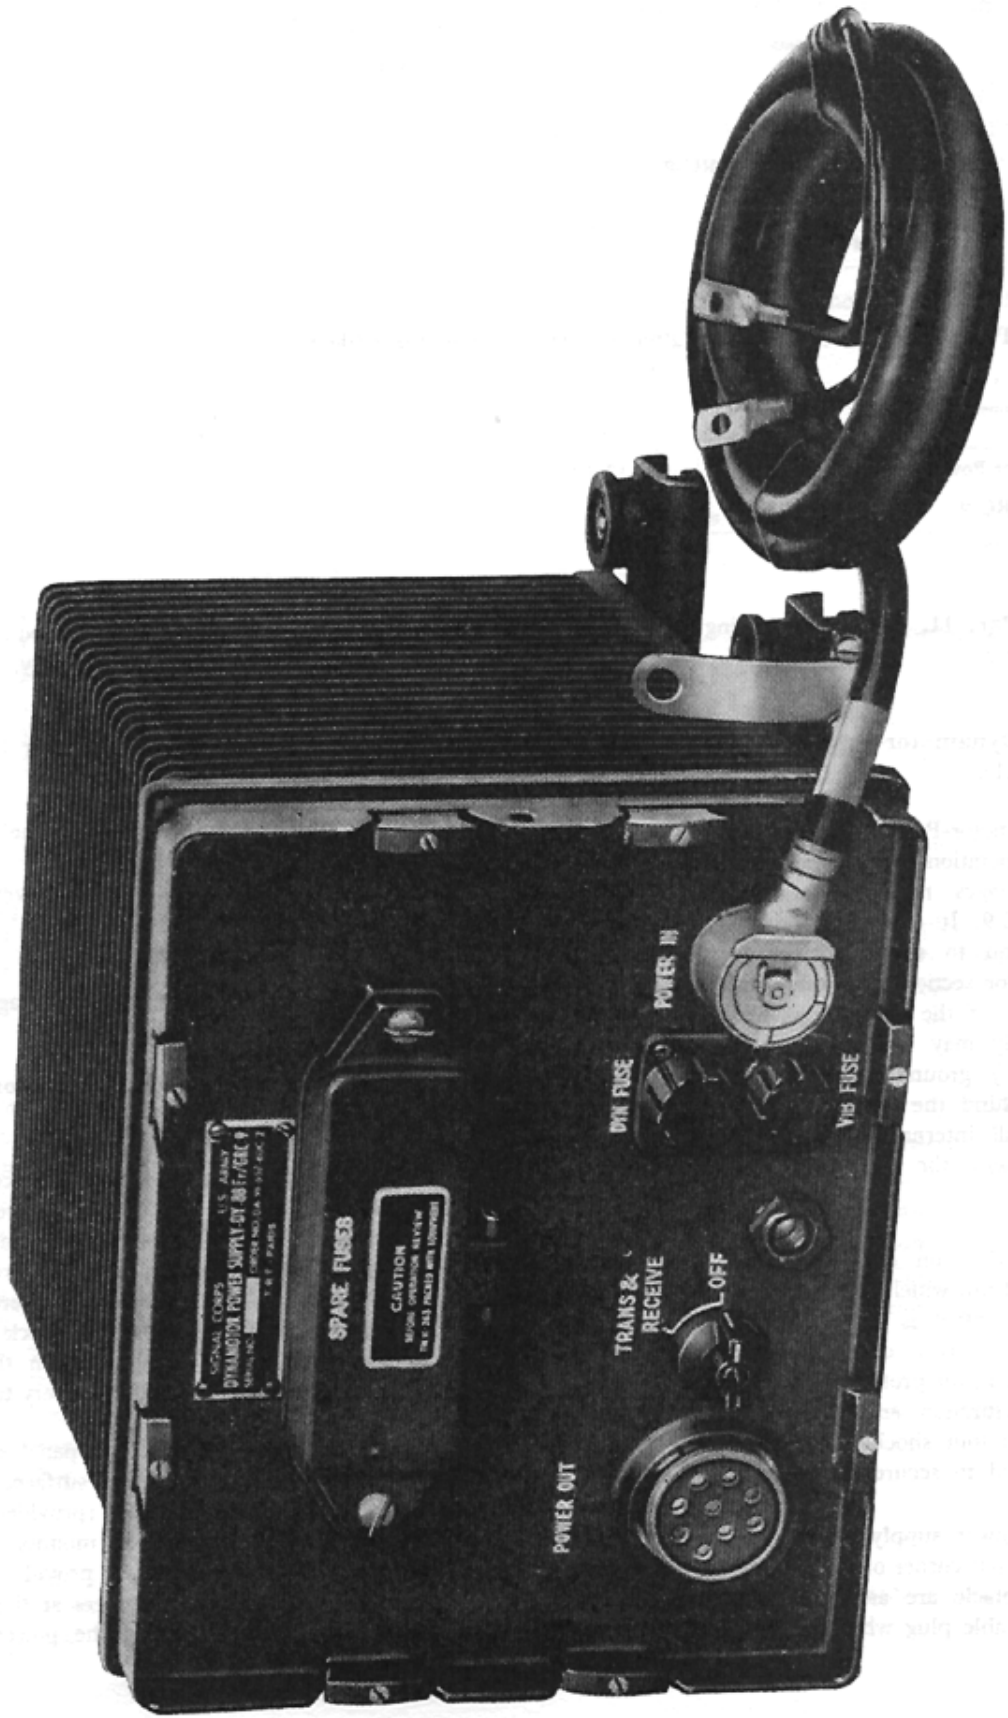

Figure 15.1. Dynamotor-Power Supply DY-88/GRC-9.
**Par. 11.1. Dynamotor-Power Supply DY-88/GRC-9** (fig. 15.1).
**Page 15. Fig. 15.** Insert figure 15.1 after figure 15.